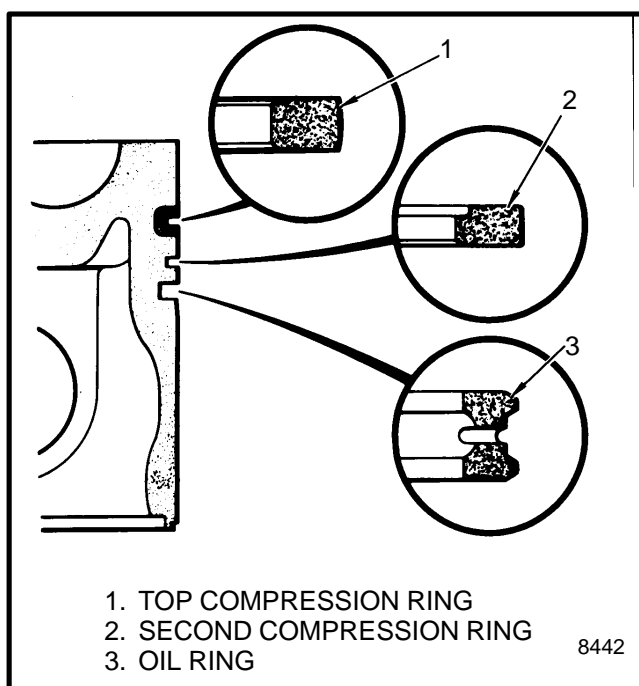

FIGURE 21. PISTON RINGS (4.2482 ENGINE)
4.2482 ENGINE (See FIGURE 21.)
2. Install the second ring into the groove with the step toward the top of the piston. The ring for the second groove has a tapered face. Move the second ring so that the space does not align with the space of the oil control ring. See FIGURE 21.
3. Install the top compression ring in the top groove with the step toward the top of the piston. The gap for the top ring must not be aligned with the gap of the second ring. See FIGURE 21.